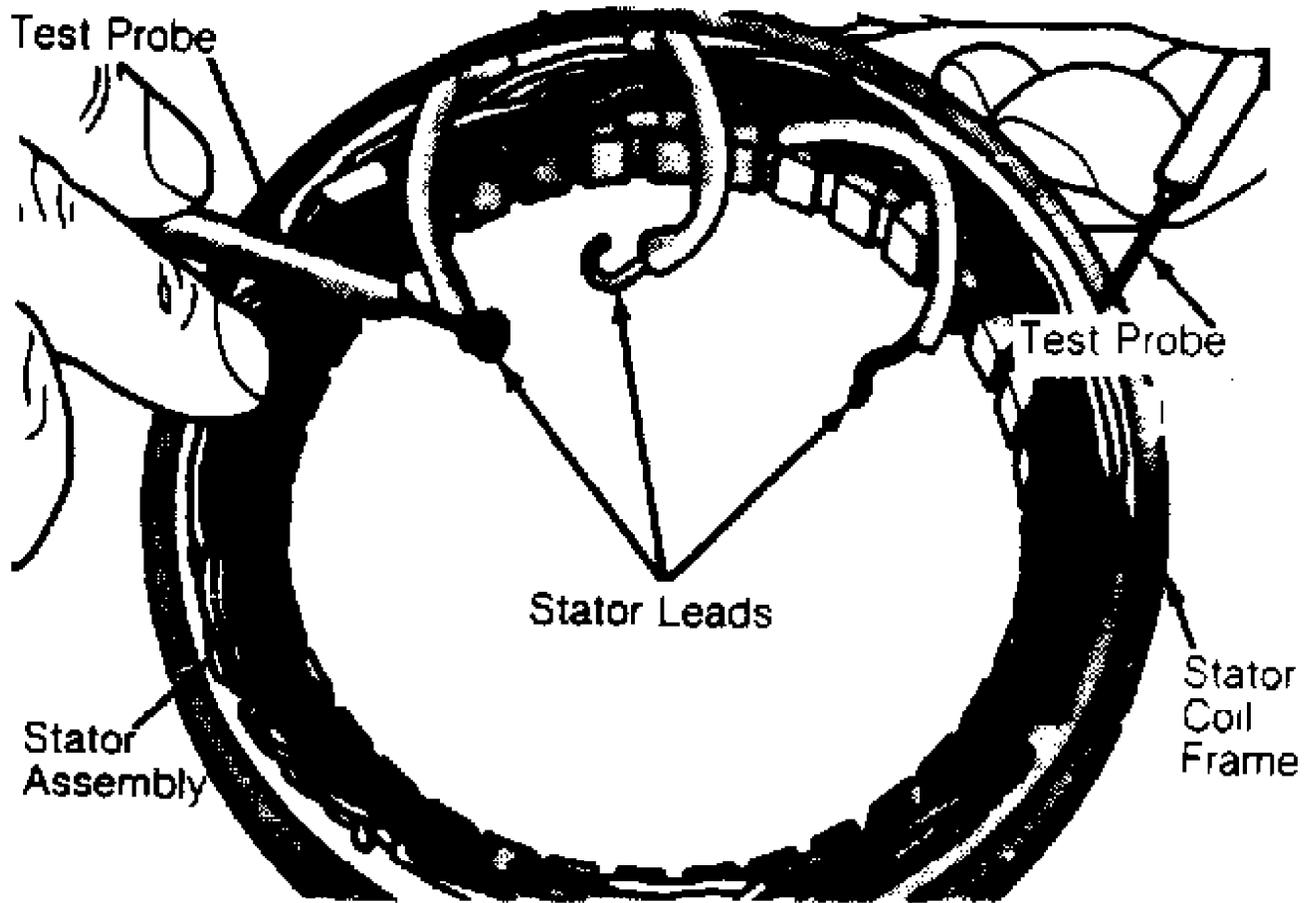

Fig. 13: Testing Stator Coil Ground
1) Check stator for worn or broken leads, distorted frame, or burned windings. Clean a small area of stator frame for making a good electrical contact. Using a volt/ohmmeter, test for continuity from stator leads to frame. Test should show an open circuit. See Figs. 13 and 14.